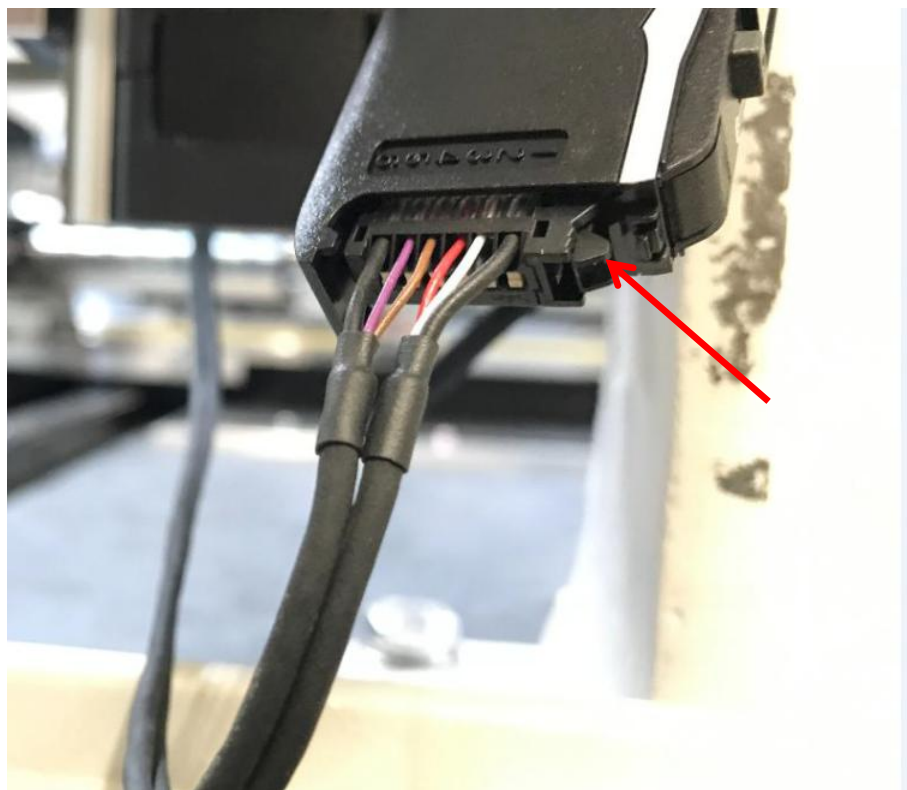

Figure 8
10. Gently press the knob and remove Filter Height Sensor End Connector from Filter Height Sensor Amplifier as Figure 8.